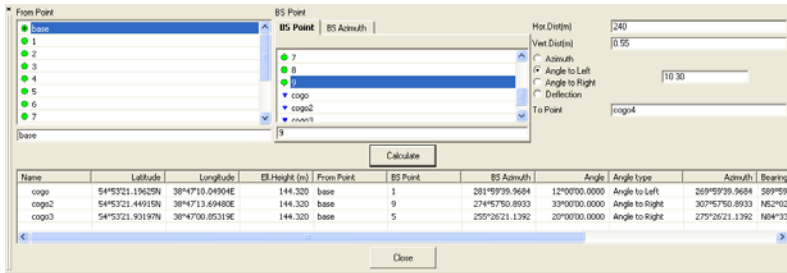

Figure 9-100. Traverse Point Results
5. Click **Calculate**. The coordinates of the traverse point are calculated (Figure 9-100 on page 9-81)